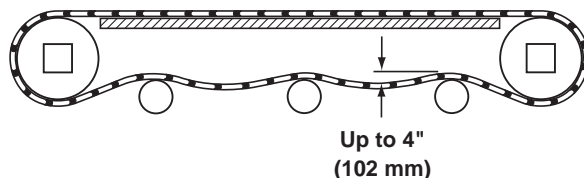

Figure 41
4. Check belt sag by measuring from the top of the return (Figure 41). Belt sag should not exceed 4" (102 mm). Follow steps 7 – 9 in the "Belt Installation" section on page 13 to remove slack from the belt.